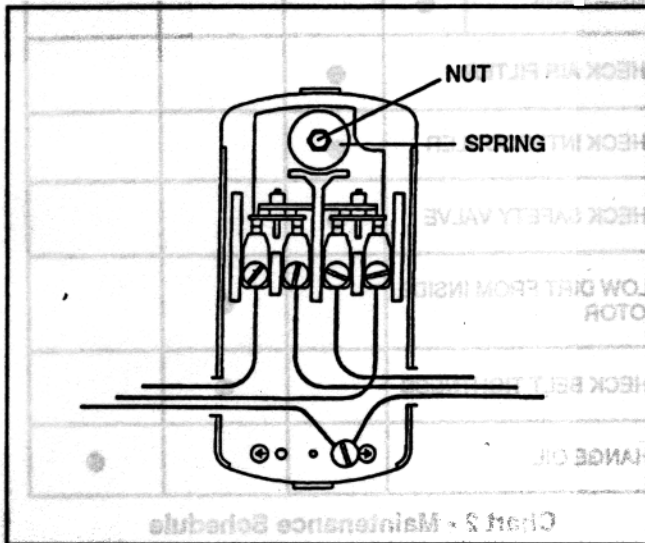

Figure 5 - Pressure Switch
1. To reduce the pressure setting, turn the nut on top of the spring counterclockwise (See Figure 5).